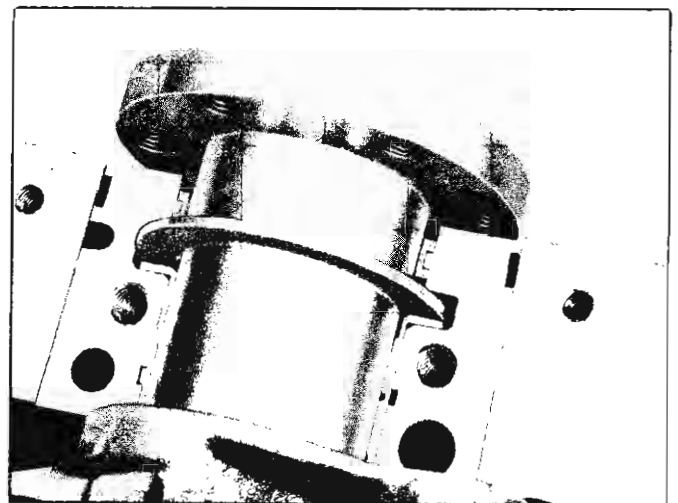

Fig. 102—Plastigage on Journal
2. Place a piece of Plastigage the full width of the bearing (parallel to the crankshaft) on the journal (fig. 102).